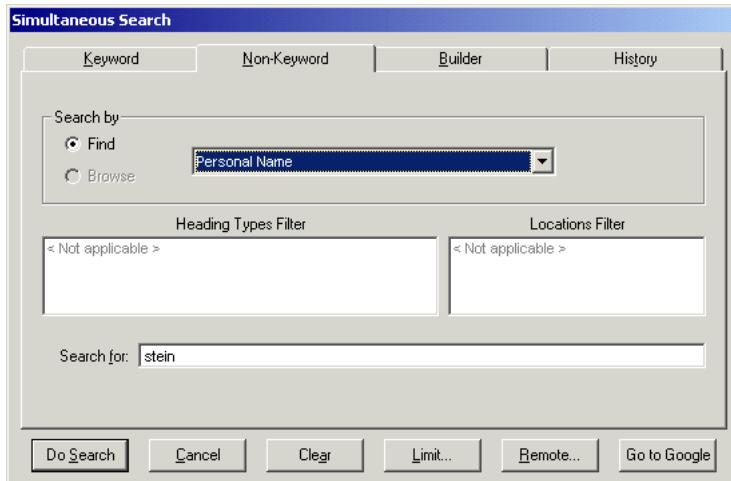

Figure 2-43. Simultaneous Search dialog box
- If you are connecting to more than one database, the **Simultaneous Search** dialog box opens (see Figure 2-43). The types of searches available are limited to those shared by all connected databases.